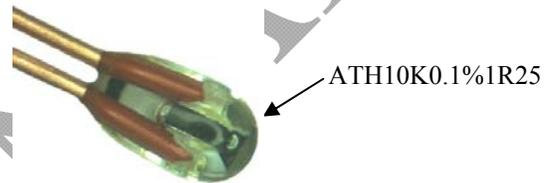

Figure 6.1. Bare Leaded Thermistor Head Photo
- Do not bend the thermistor leads at the location that is too close to the thermistors body, to avoid breaking the glass coating, as shown in Figure 6.1, Figure 6.2, and Figure 6.3 below. Only bend the leads at the location that is at least 2mm away from the thermistor body.